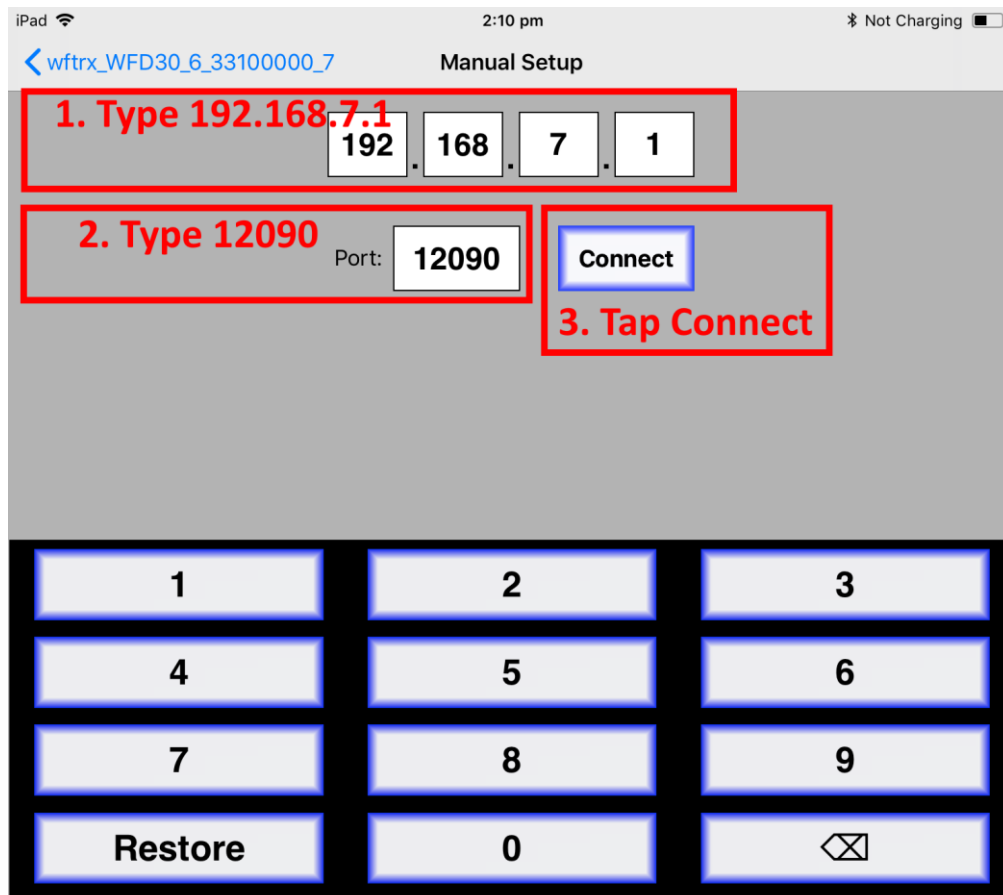

Figure 8 Connect manually if needed
- (9) If for some reason there is nothing in the “Available WiThrottle Servers” list, tap “Configure” or “Search for Wi-Fi Modules” and follow a. or b below.
- Configure: The WFD-30 always has the IP Address 192.168.7.1 on its own access point, so type this IP Address. Then type 12090 into the Port textbox and tap the Connect button as Figure 8. The green network LED on your WFD-30 should now flash regularly to show that the UWT-100 is communicating with it.